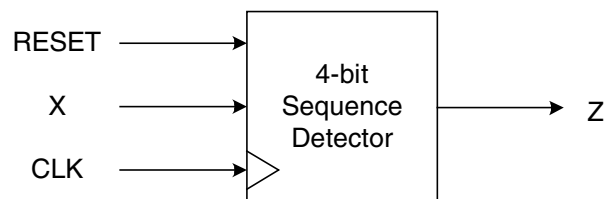
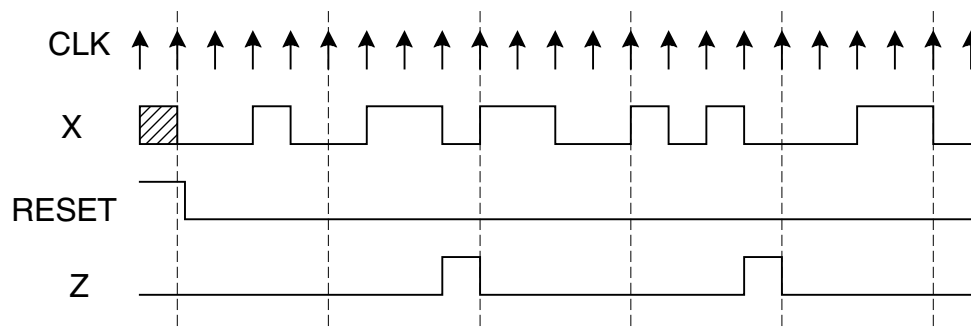

Figure 1a
Figure 1b
1. The finite state machine shown in *Figure 1a* detects 4-bit sequences on a binary input X and produces a high pulse for one clock cycle at the output Z if either 0110 or 1010 pattern occurs. The timing of the state machine is illustrated in *Figure 1b*. The input X changes shortly after the rising edge of the clock. Detection starts on the clock edge after RESET is deasserted and the input X is processed by the FSM as groups of 4 bits. The output Z is asserted during the fourth bit of the input pattern.